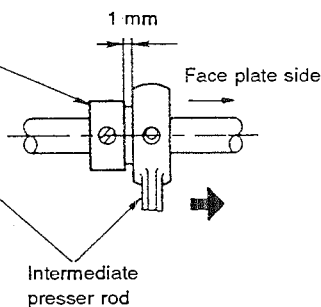

Fig. 5-20-5
- 3) The clearance between the end face of the intermediate presser cam and the end face of the intermediate presser rod is 1 mm with respect to the direction of the arrow after play has been eliminated. (Fig. 5-20-5)
- 4) When the intermediate presser is in the lowest position of its stroke, the clearance between the bottom face of the intermediate presser and the top face of the intermediate presser bar lower bushing is 3 ± 0.2 mm. Additionally, positioning pin ④ keeps in contact with the top end of positioning link ⑤ while the intermediate presser is actuated. (Fig. 5-20-5, Fig. 5-20-7)